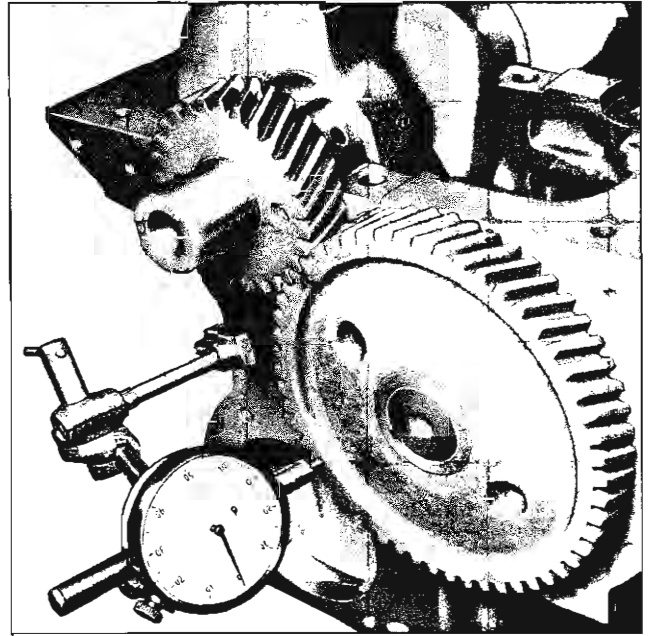

Fig. 36—Checking Camshaft Gear Runout
3. Check camshaft and crankshaft gear runout with a dial indicator (fig. 36). The camshaft gear runout should not exceed .004" and the crankshaft gear runout should not exceed .003".